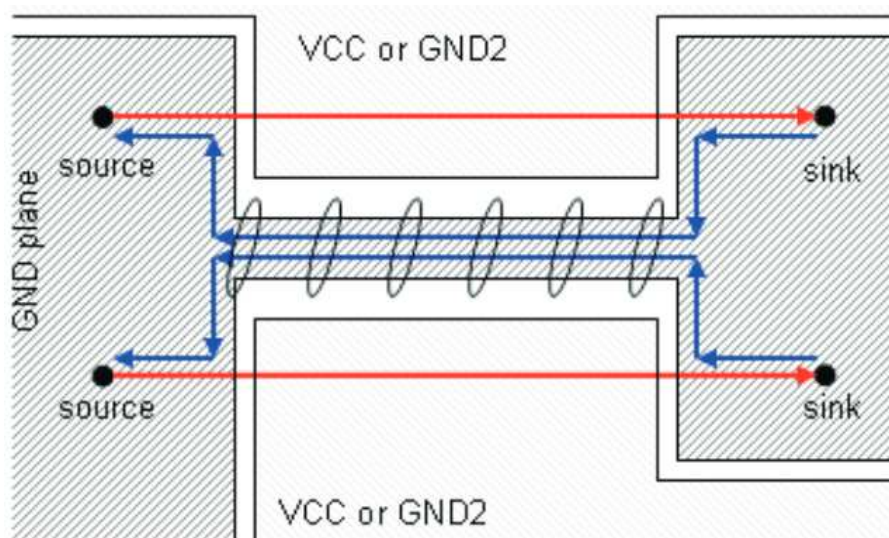

图 19. Crosstalk Induced by the Return Current Path
- With a proper signal routing, crosstalk also can arise in the return current path due to discontinuities in the ground plane. Always take care of the return current (图 19).
For 图 19, do not route a signal referenced to digital ground over analog ground and vice versa. The return current cannot take the direct way along the signal trace and so a loop area occurs. Furthermore, the signal induces noise, due to crosstalk (dotted red line) into the analog ground plane.